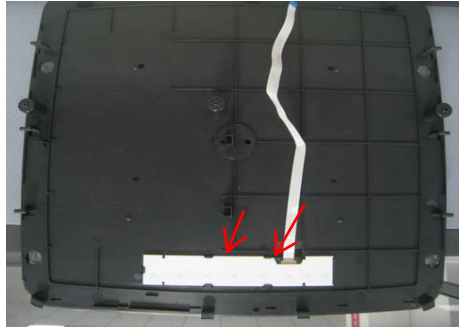

Figure 3
Step3 :Remove the white plastic Front Panel,then take the TC Board out from Assembly TOP COVER .(Figure 3)